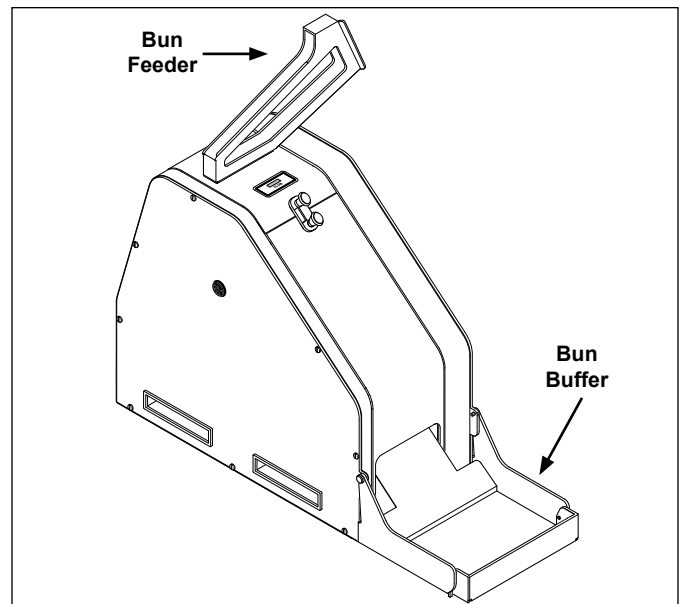

Figure 1. CTX-200 Club Toaster
1. Remove the CTX-200 (Figure 1) and all packing materials from the shipping carton. Then, open the accessories box and remove the accessories box. It should contain the following:
- 1 Bun Feeder (Figures 1 and 2)
- 1 Bun Buffer (Figures 1 and 2)
Assemble the unit as shown in Figures 1 and 2.